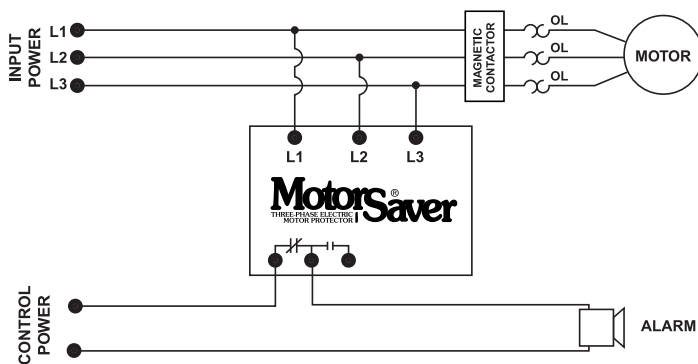

Figure 2: Typical Alarm Wiring Diagram
- B. To sound an alarm, connect the normally closed contact in series with the alarm as shown in Figure 2.